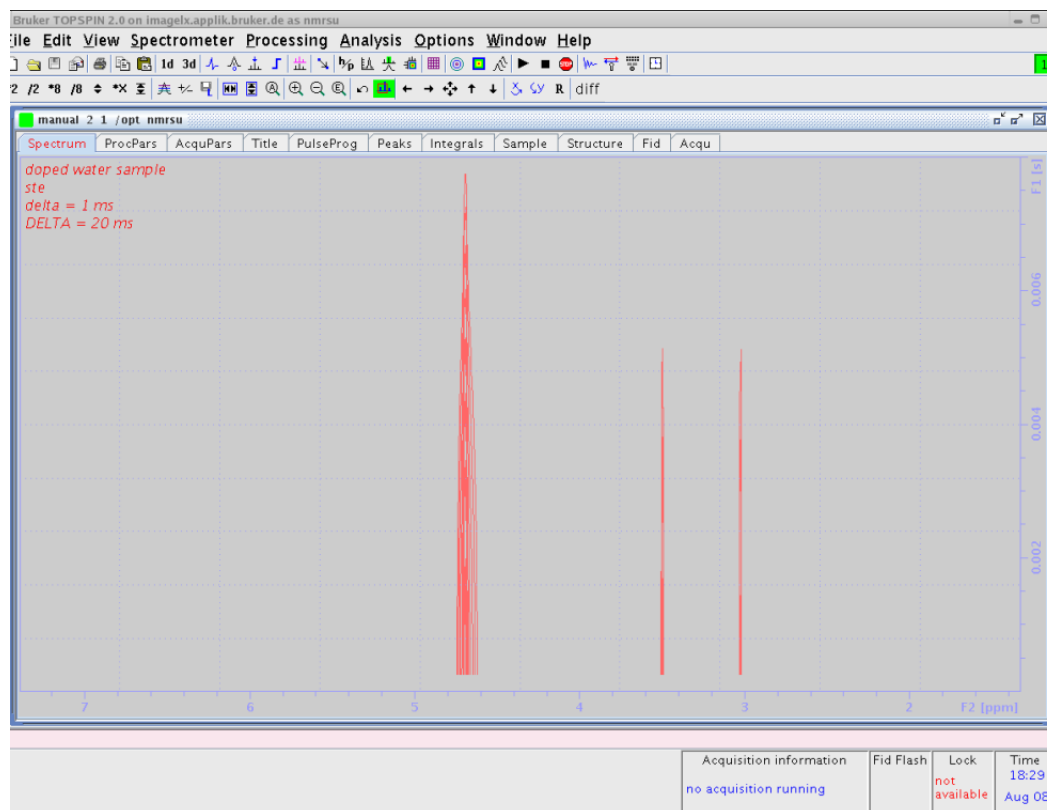

Figure 3.6 Echo Decay After xf2
1. Type "xf2" and phase correct the data in F2 direction. Using the doped water sample, the result should look like that in Figure 3.6.